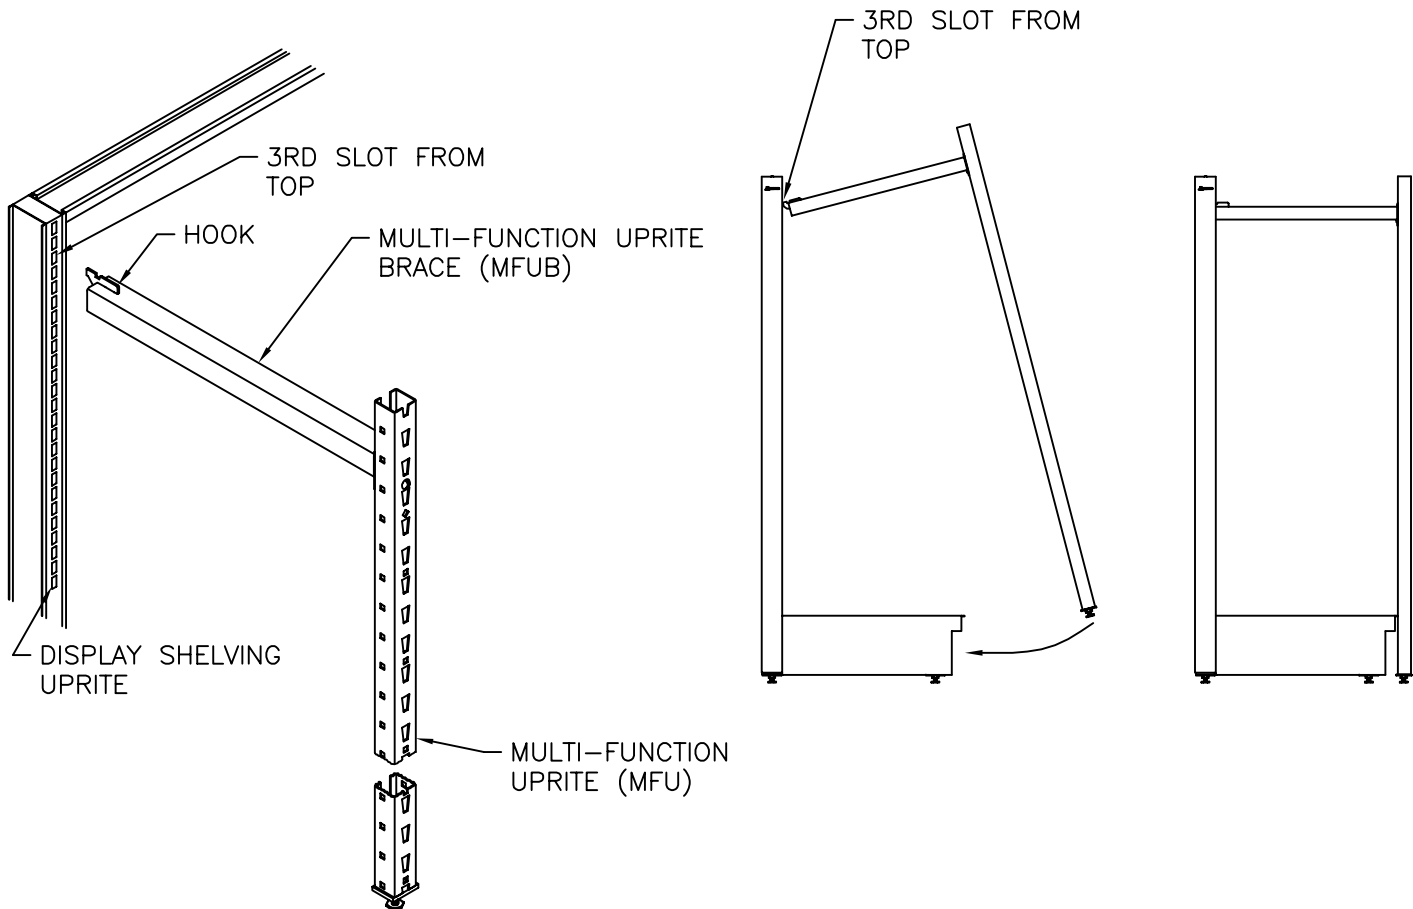

FIGURE 2
- b) Rotate Uprite/Uprite Brace as shown to bring the Uprite to a vertical position (SEE FIGURE 2).